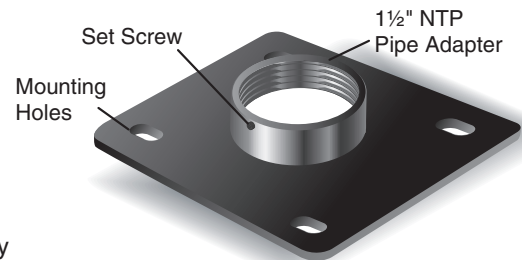

Figure 1. FCMP 44 Features
The features of the FCMP 44 are shown in figure 1. Included in the kit are: Flat Ceiling Mounting Plate, (1), and Hex Wrench, 3/32", (1).
1. Locate a suitable wooden joist at the location chosen for the installation. Mark the position of the four corner mounting holes (see figure 1). Each hole should be in the center of a joist (minimum size 2 inch by 4 inch). If the plate does not span two joists, build up a suitable support, using 2 by 4 inch minimum sized joists, ensuring each hole falls in the center of a joist.